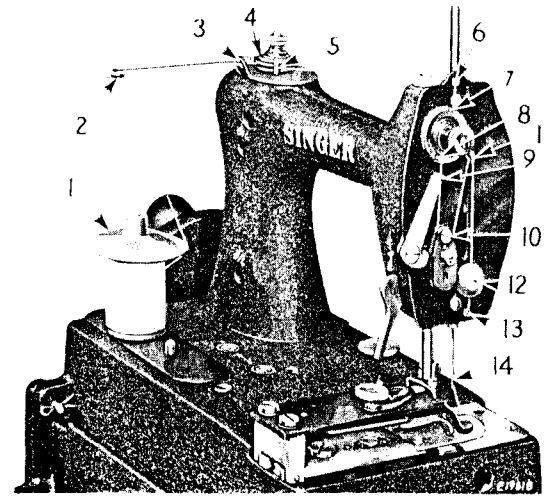
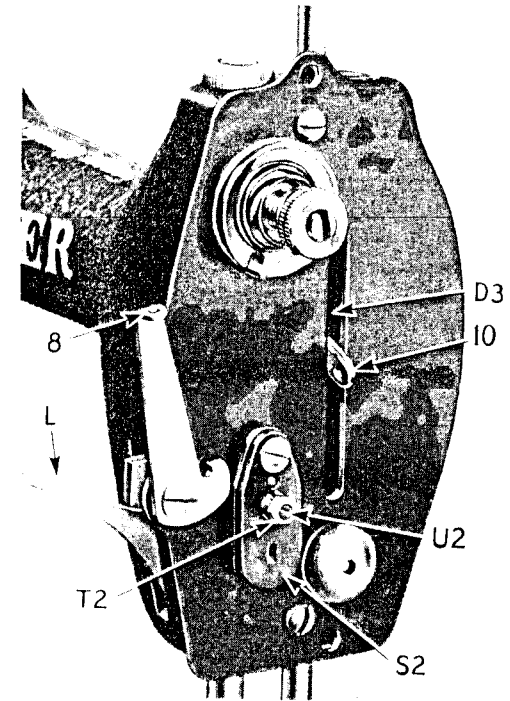

Fig. 5. Threading the Machine
Fig. 6. To Adjust the Thread Nipper
(STANDING AT THE FACE PLATE END AND THE REAR SIDE OF THE MACHINE AS INDICATED BY FIG. 5)
Place the spool of thread on the spool pin as shown in Fig. 5, and place the spool cover (1) on the spool pin and
CAUTION: The eye of the wire guide (2, Fig. 5) should be directly over the spool pin (B3, Fig. 5). This will keep an even tension on the thread as it unwinds from the spool.
Turn the hand wheel in the direction indicated by the arrow (S, Fig. 2), located on the rim of the hand wheel, until the needle bar reaches its highest position. Insert the needle as far as it will go up into the needle bar, having the long groove of the needle to the left (facing away from the upright part of the machine arm) and tighten the set screw (I2, Fig. 5). Make sure that the long groove of the needle is facing squarely to the left and is not turned toward either the front or back.
The thread nipper (S2, Fig. 6) is adjusted to hold the thread when the presser bar lifter (L) is raised to lift the button clamp. This grip upon the thread should be not too positive but
Should resetting be required, loosen the set screw (R2) and turn the hand wheel until the connecting link (Q2) reaches its lowest position, then set the needle bar with its upper end flush with the top of the machine head as shown at (P2). Make sure that the needle bar is set with the thread take-up (I0) squarely to the left so that it will not rub against either side of the slot (D3, Fig. 6) in the face plate. Tighten set screw (R2) and replace the face plate, making sure that the lug (X2, Fig. 5) is between the spring projection (V2) and the bracket (W2) as instructed at the bottom of page 5.